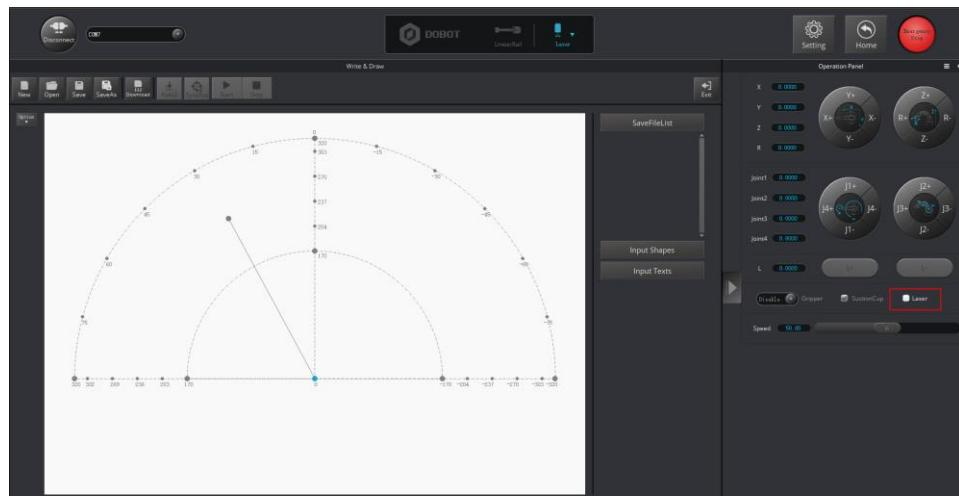

Figure 5.80 Unselect the Laser
**Step 3** Press and hold the unlock button  on the Forearm to move the robotic arm to raise and lower the height of the laser kit until the laser is the brightest with a smallest possible spot size. When the laser power level is high enough, the laser beam can burn and cut the paper. After getting a pretty good focus, unselect **Laser** on the **Operation Panel** page to turn off the laser, as shown in Figure 5.80.